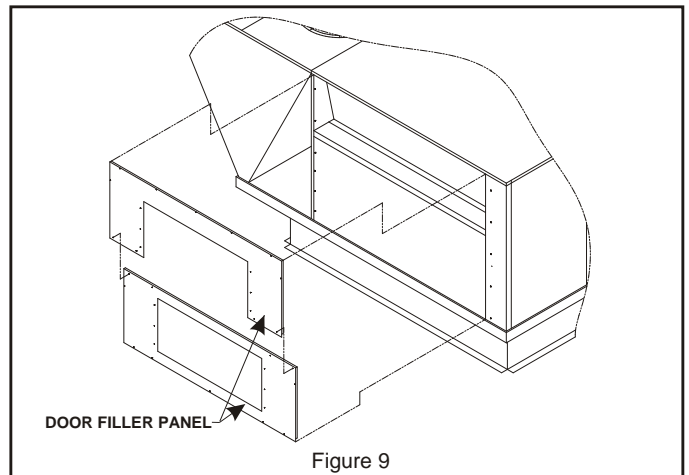

Figure 9
2. Install door filler panels (provided) with panel having rectangular hole at the bottom and panel with "U" shaped opening at the top. **See Figure 9.**